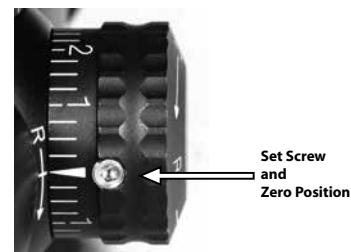

Figure 2
8. Loosen the set screw on the windage turret 1¼ turns. Visually align the “0” on the turret number scale with the index mark on the scope body for the windage turret. With the number scale in the “0” position, apply downward pressure to the turret and tighten the set screw to 5 inch pounds. See Figure 2.